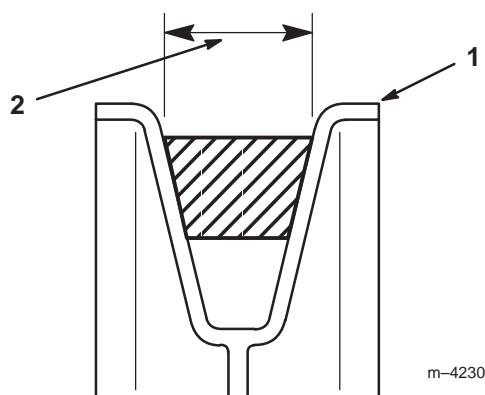

Figure 19
- 11.** Make certain that the wide side of the PTO drive belt is toward the outside diameter of all (six) pulleys (Fig. 19).